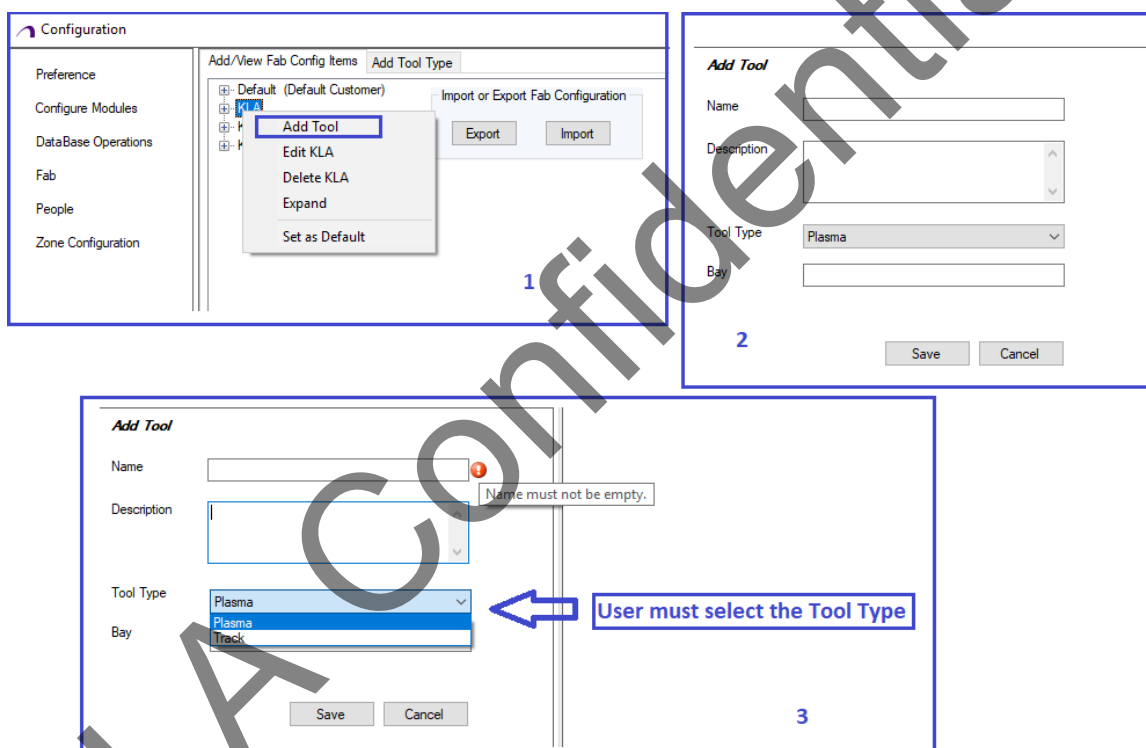

Figure 5-12 To add Tool information
6. Right-click the newly added customer, then click **Add Tool**. The **Add tool** section opens, as shown in Figure 5-12.
8. Select the **Tool Type** as **Plasma** using the drop-down list, and then click **Save** button to add the **Tool** details, as shown in Figure 5-12.